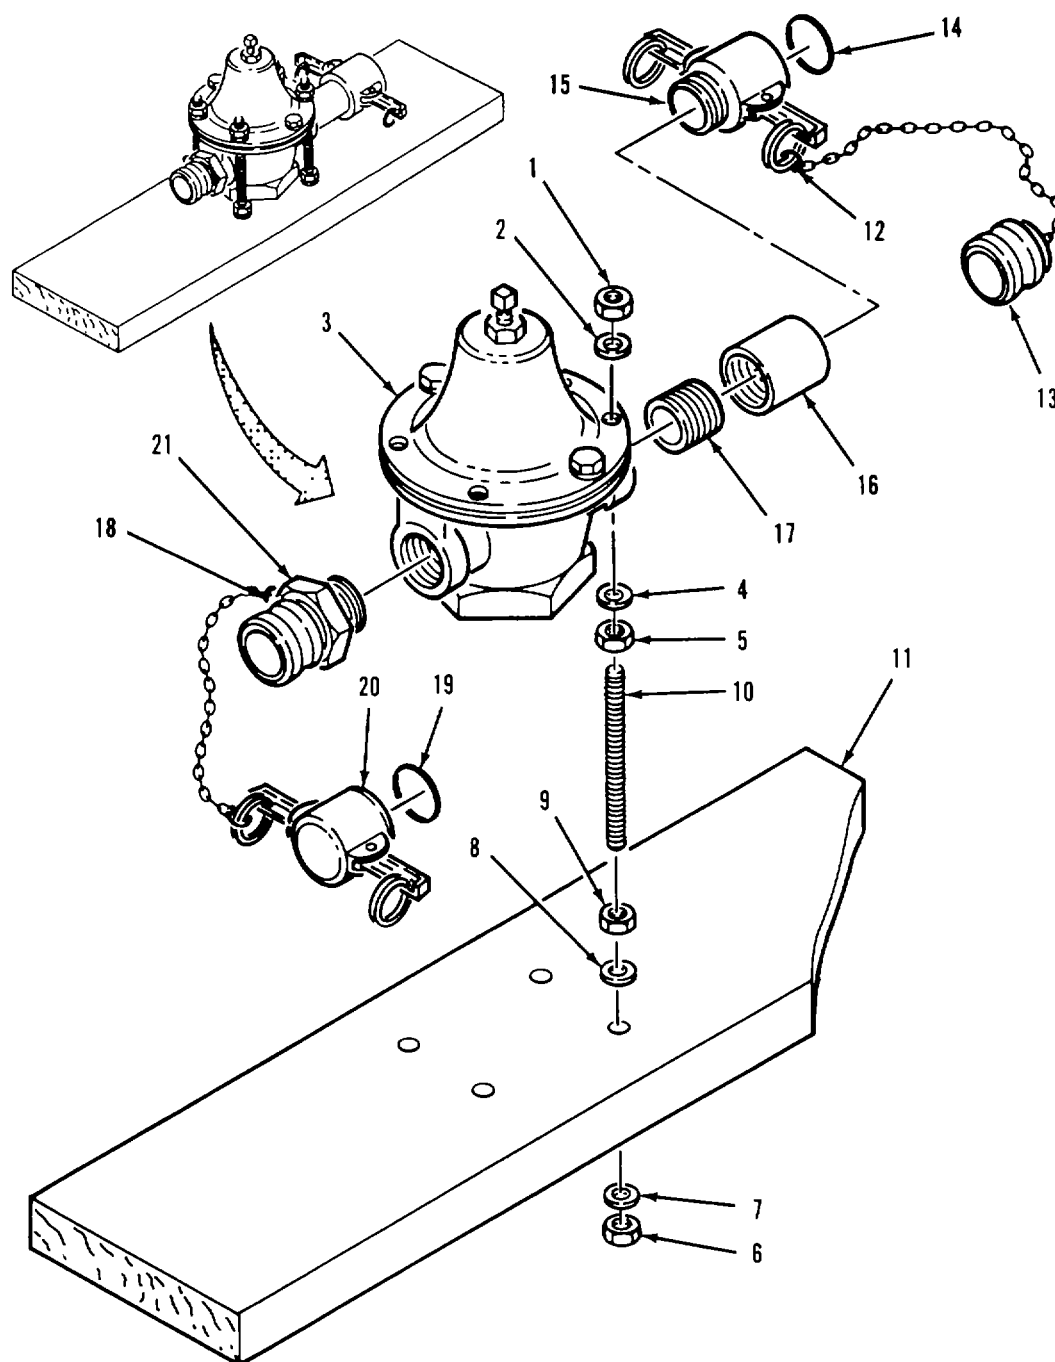

Figure 4-10. Water Pressure Regulator Disassembly
- a. Disassembly. Refer to figure 4-10
Remove regulator assembly from mount Refer to figure 4-10
Install regulator assembly on mount Refer to figure 4-10